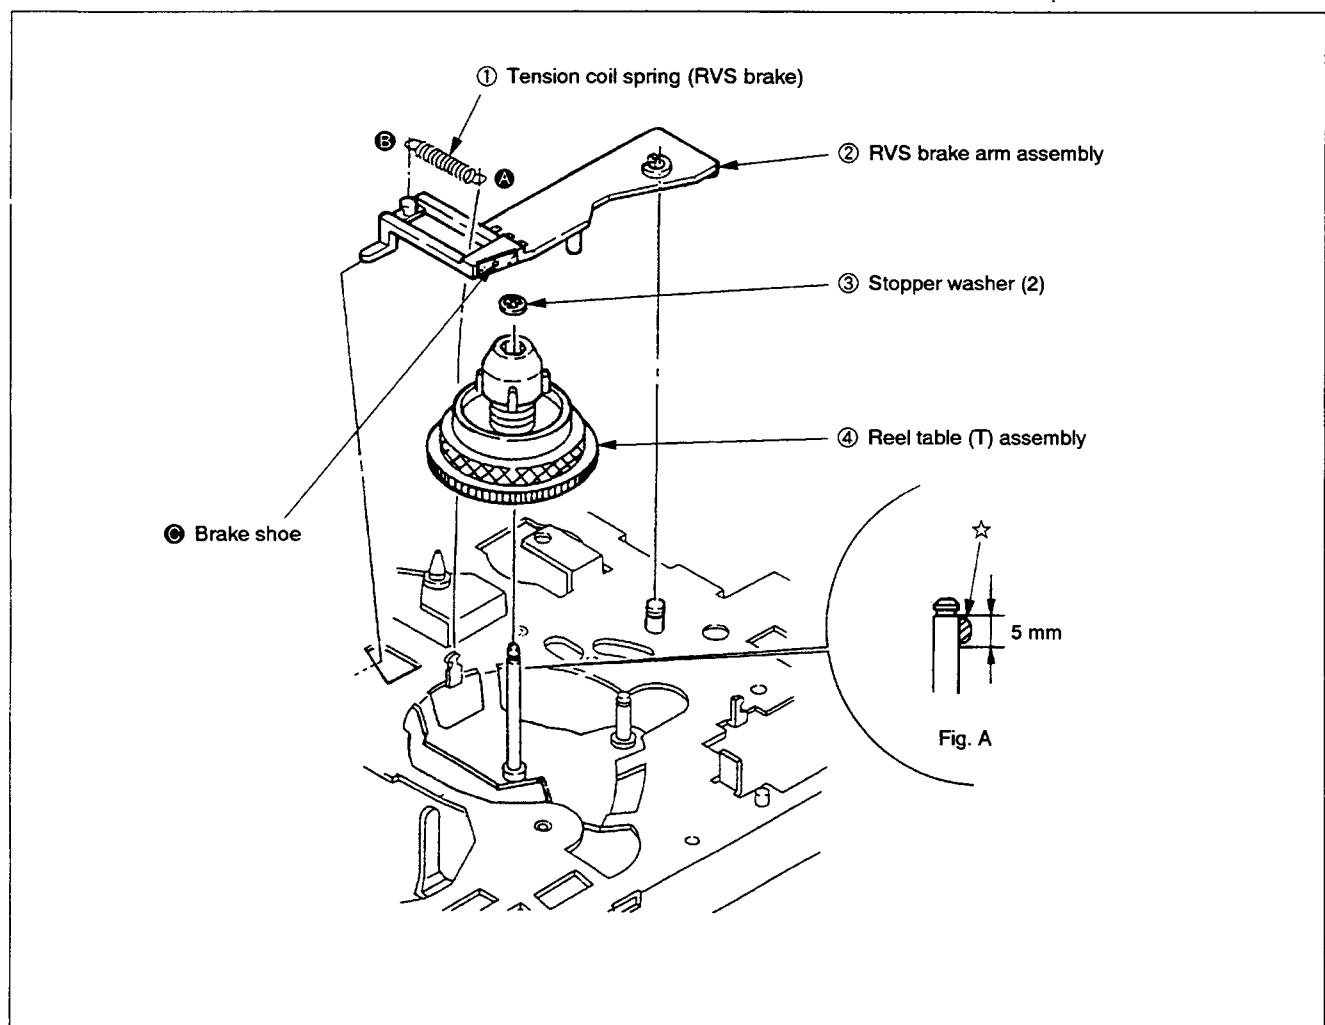

Fig. 3-14
### 3-12. RVS BRAKE ARM ASSEMBLY, REEL TABLE (T) ASSEMBLY (Fig. 3-14)
- 3) Remove tension coil spring ① in the order A to B.
- 4) Remove RVS brake arm assembly ②.
- 5) Remove stopper washer (2) ③ to pull out reel table (T) assembly ④.